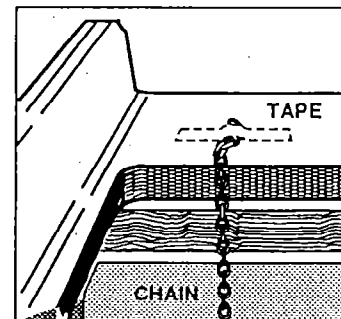

Fig. 15
3. Temporarily attach the loose end of the chain to the rear of the countertop with the tape from the packaging. See Fig. 15.